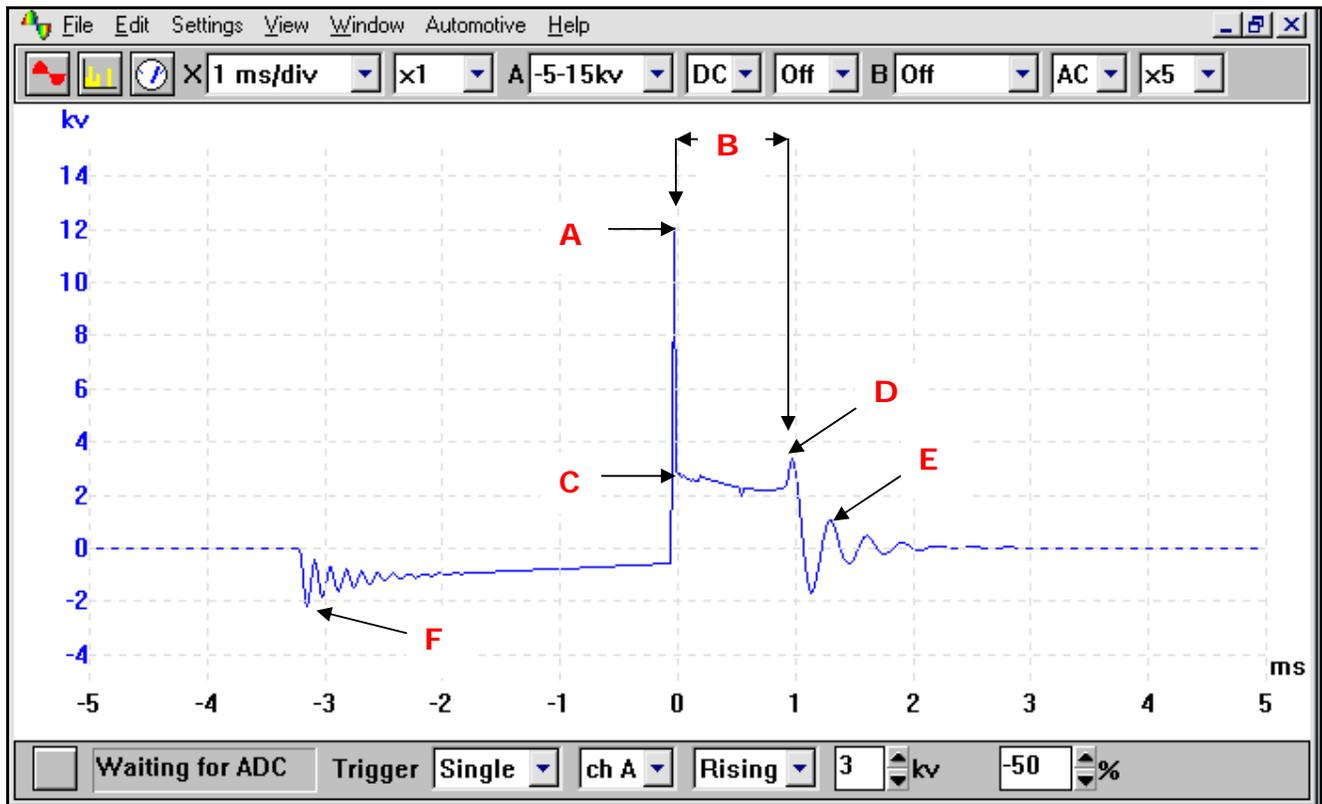

Fig 1.1
The ignition secondary picture shown in the example waveform (**Fig 1.1**) is a typical picture from an engine fitted with electronic ignition. The waveform is an individual secondary High Tension (HT) picture that can be observed one cylinder at a time.